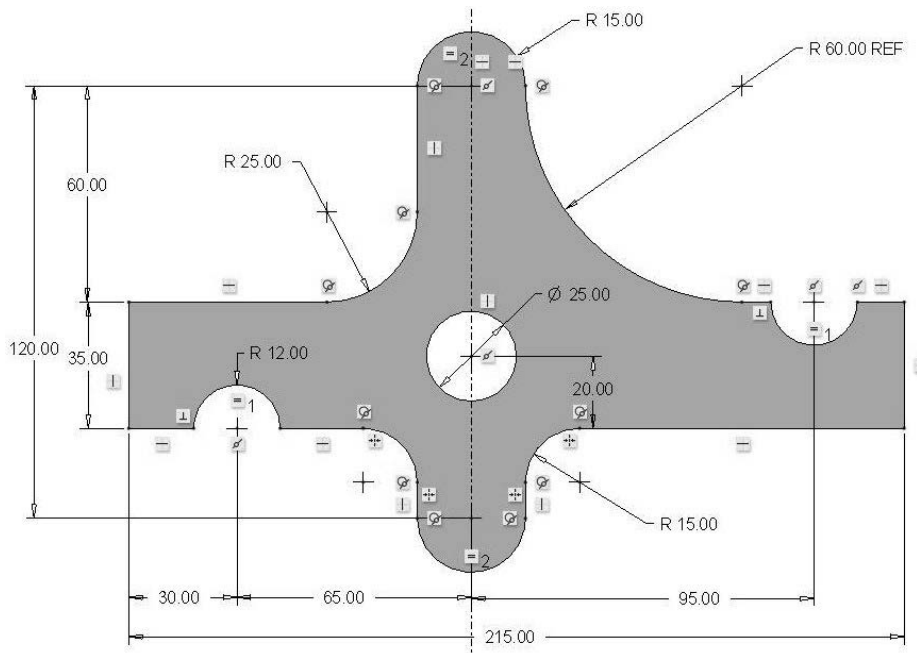

Figure 3-81 Problem 12—Racket Pawl
3.12 Challenge problem - Draw the "Racket_Pawl" (Figure 3-81). **Design Intent**—All arcs are tangent to each other or the straight edges. The R 12.00 arcs are centered along the horizontal lines.